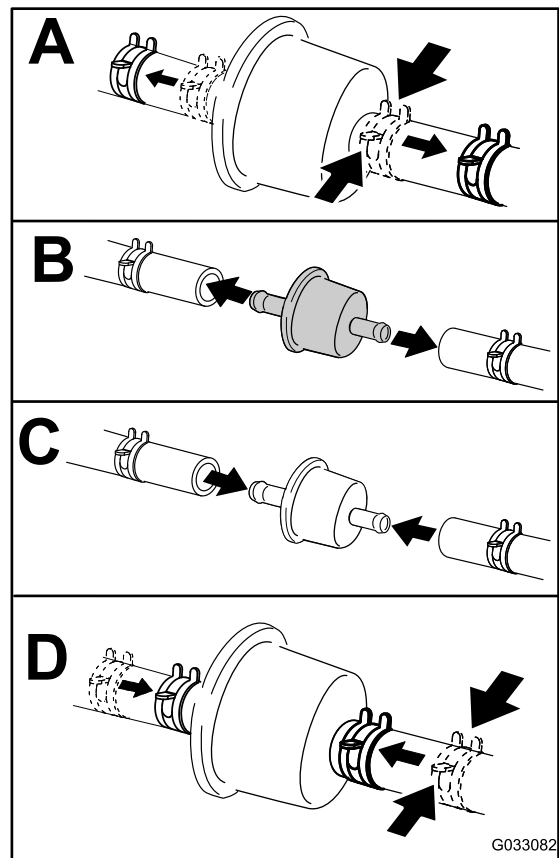

Figure 46
4. Replace the fuel filter (Figure 46).